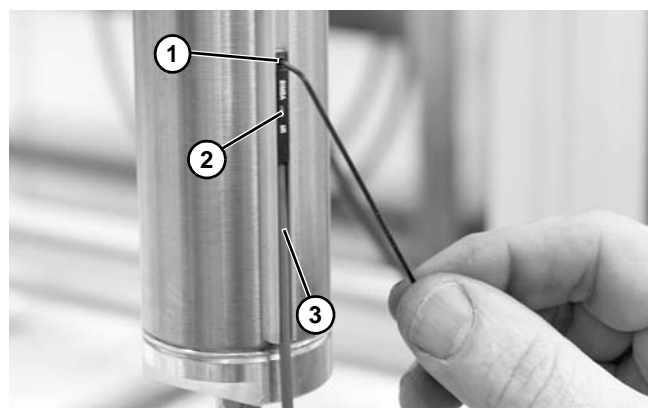

Figure 17
1. To adjust cylinder stroke sensors, loosen set screw (**Figure 17, item 1**) and move sensor (**Figure 17, item 2**) up or down in channel (**Figure 17, item 3**). Tighten set screw.